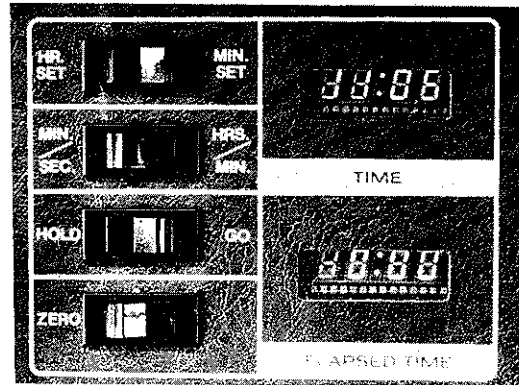

Figure 2-5. Digital Clock/Elapsed Time Display
- ⑩ **CLOCK PANEL** — As shown in figure 2-5, this panel includes a digital readout. Four switches to the left of the display set clock timing. To set **TIME** display, press **HR SET/MIN SET** switch to **HR SET** position and hold until correct hour is displayed; repeat with switch in **MIN SET** position until correct minutes are displayed.